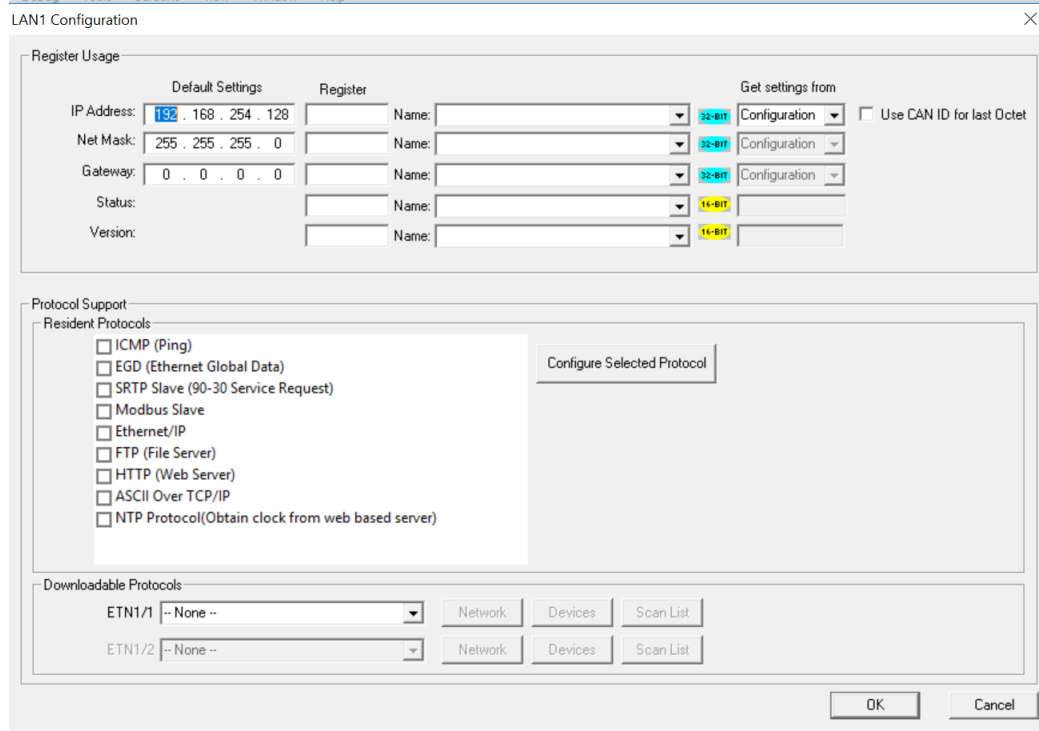

Figure 12.2 - Ethernet Module Configuration
- Click the **Config** button to the right of LAN1, revealing the Ethernet Module Configuration dialog as shown in Figure 12.2.